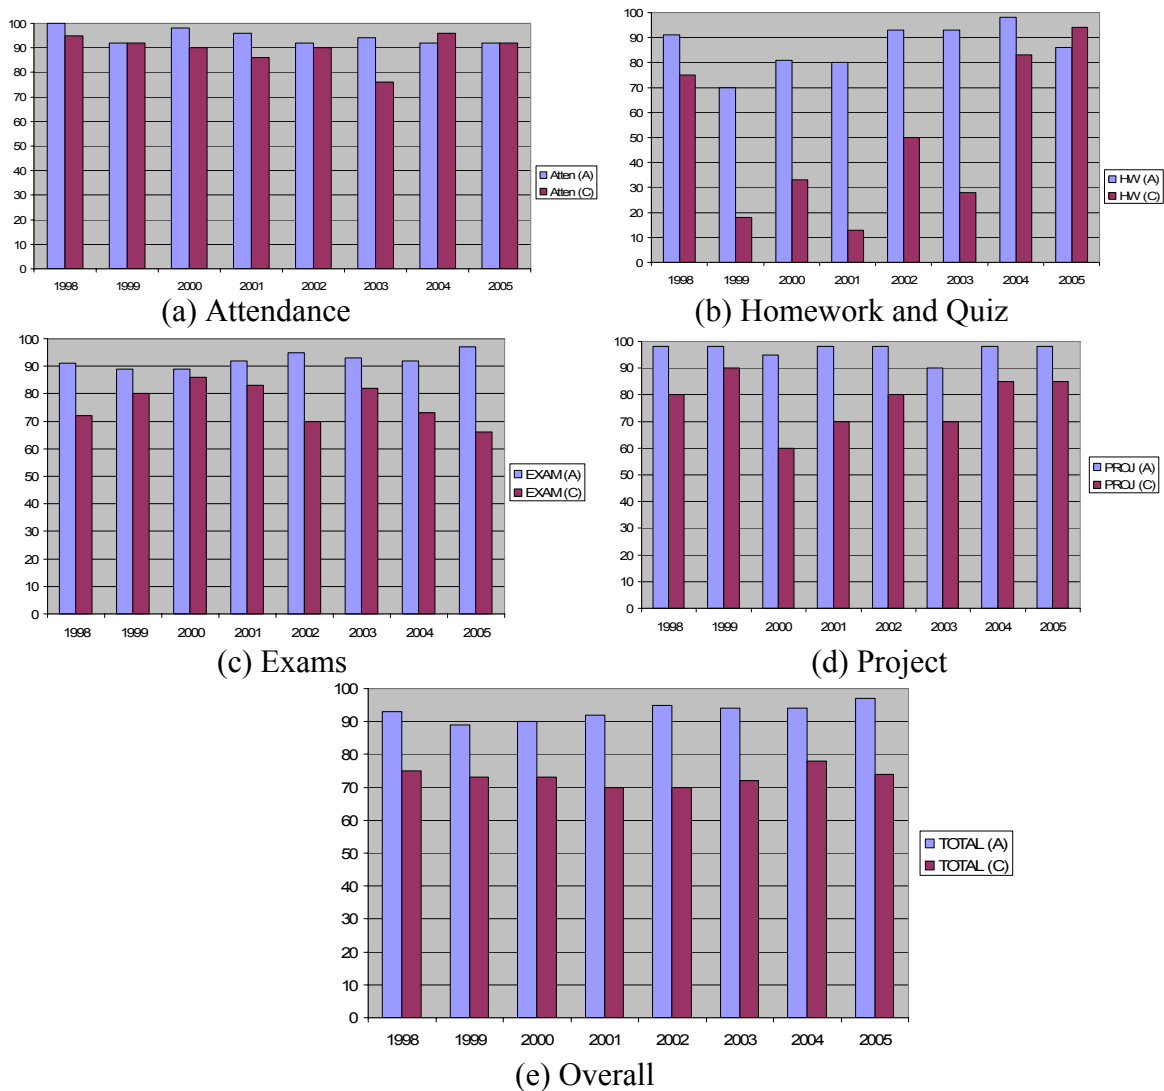

Figure 2. Student performance data in 1998-2005.
Figure 2 (a)-(e) shows the averaged GPA of (A) and (C) student performance in attendance, homework and quiz, exams, projects and overall performance. In all these figures, the blue bar represents data for averaged A-students in the class, and the pink bar represents data for averaged C students in the class. These data show consistent trend in measuring student learning using the aforementioned criteria.